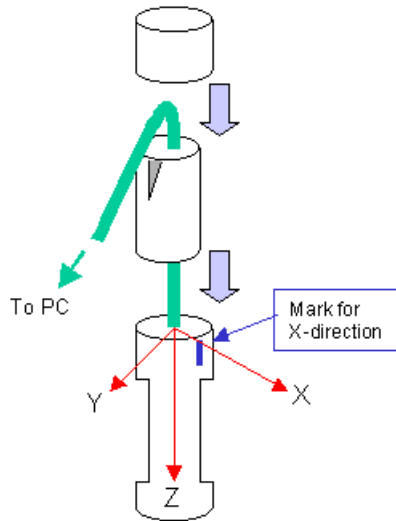

Figure C2. The sensor tube.
1. **Connecting the tube:** Connect the two tube components and seal them with duct tape (See Figure C2). Bend the hose and put the cap on the top of the tube. Make use of the groove on the tube surface so the hose can go out easily. (Note: The sensor has been made waterproof already.)
4. **Zeroing out the east-west field:** Turn on the PC and the data acquisition program will start up automatically. A window displaying the time series of data should also appear on the screen (Further software setup is required later; see "D. The Software" for details). If two persons are installing the magnetometer, one can go outside for the sensor alignment and the other examines the PC to monitor the magnetic field measurements. To align the sensor with the ambient magnetic field, first look for a mark on the tube surface (see Figure C2). The X (or H) direction is from the center of the tube to the mark. Align the mark to the magnetic north. Rotate the tube in small increments while still maintaining a vertical alignment of the tube, until the east-west field (BY) is zeroed out. The magnetic field in the other two components (X and Z) should now be in the range of measurements.